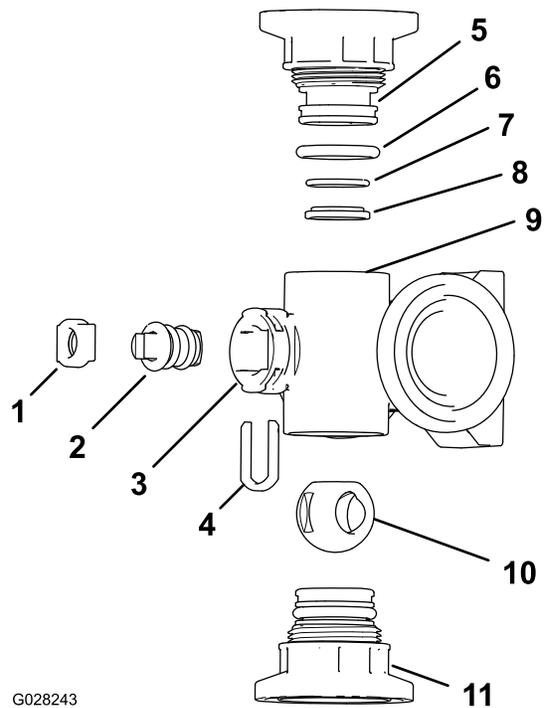

Figure 72
2. Remove the 2 end-cap-fitting assembly from each end of the manifold body (Figure 72 and Figure 73).
- Remove the stem retainer from the slots in the stem port in the manifold (Figure 72 and Figure 73).
- Remove the stem retainer and valve-stem seat from the manifold (Figure 72 and Figure 73).
- Reach into the manifold body and remove the valve-stem assembly (Figure 72 and Figure 73).
- Check the condition of the outlet-fitting O-rings (section-valve manifold only), end-cap O-rings, back seating O-rings, ball seat for damage or wear (Figure 72 and Figure 73).
- Apply grease to the valve stem and insert it into the valve-stem seat (Figure 72 and Figure 73).
- Install the valve stem and seat into the manifold and secure the stem and seat with the stem retainer (Figure 72 and Figure 73).
- Ensure that the back seating O-ring and the ball seat are aligned and seated into the end-cap fitting (Figure 72 and Figure 73).
- Install the end-cap-fitting assembly onto the manifold body until the flange of the end-cap fitting touches the manifold body (Figure 72 and Figure 73), then turn the end-cap fitting an additional 1/8 to 1/4 turn; torque the fitting to 225 to 282 N·cm (20 to 25 in·lb).